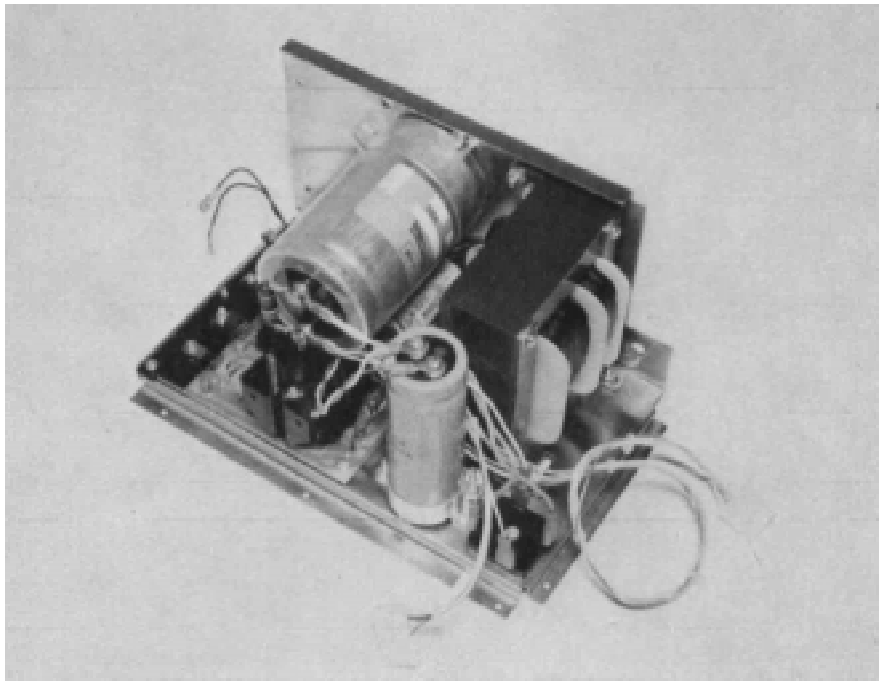

Figure 2-5. Sol-20 power supply subchassis assembly.
Position ring over the three mounting holes in the side wall of subchassis so the clamping screw faces the bottom of subchassis and so it will be accessible from the Sol-REG end of the subchassis. Insert three 6-32 x $\frac{1}{2}$ binder or pan head screws from outer side of side wall through the mounting holes. Place #6 lockwasher on each screw and secure with 6-32 hex nut. Figure 2-5 shows an assembled Sol-20 power supply subchassis.
- *() Step 39. Mount C9 in its mounting ring with its "+" terminal slightly toward C8 and tighten clamping screw. (See Figure 2-5.)
Solder a #10 lug to each lead of R13. Bend leads of R13 to fit the terminals of C9. (R13 should fit on C9 as shown in Figure 2-5.)